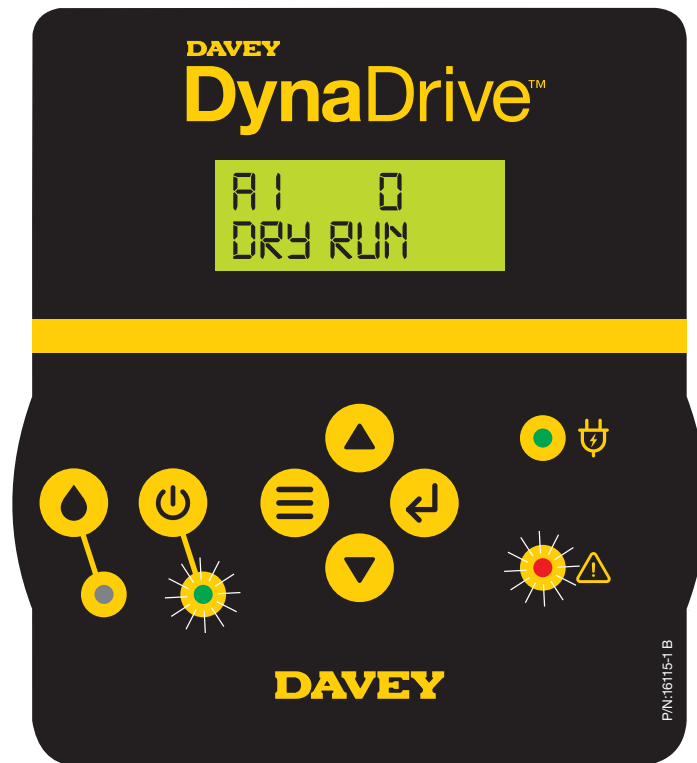

Figure 7.9
The  **Automatic LED** will also flash on the control display, see figure 7.9.
- Once the motor has slowed to a stop, press and hold the  **Menu button** and  **Enter button** for ~ 5 seconds. The display will change to show your current set pressure, see figure 7.9;